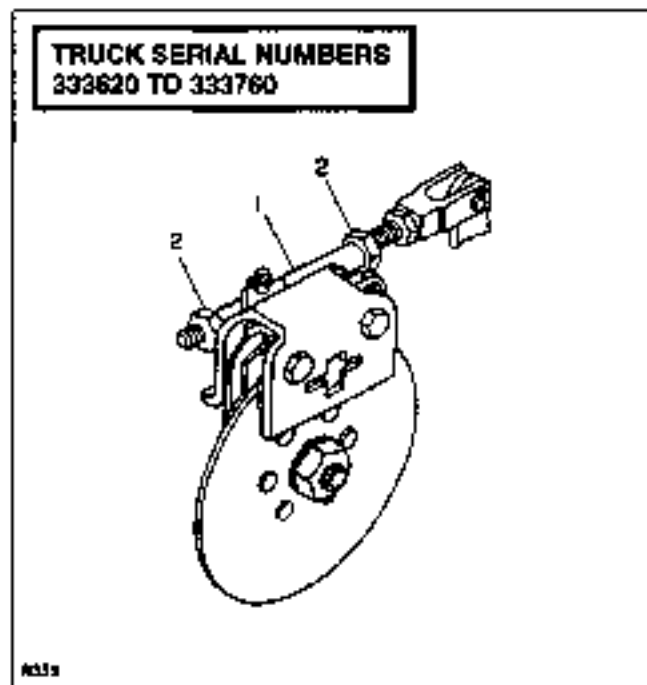

Figure 6-3. Adjustment For Truck Serial Numbers 333620 to 333760
5. Spin drive wheel by hand and position weldment tube (1, Figure 6-3) by adjusting nuts (2) until you feel a noticeable drag.